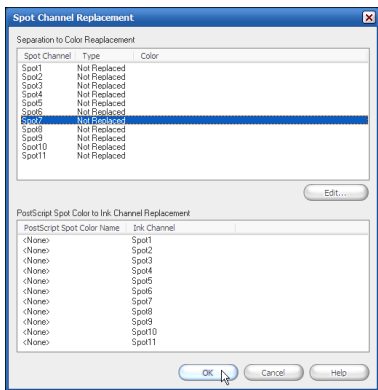

Figure 12—Spot Channel Replacement
- **Spot Channel Replacement**—this option allows you to print separation files with defined spot colors on any printer space (see Figure 12). For example, the spot colors in a CMYKSS file can be converted to CMYK so the file can be printed correctly on a CMYK printer. This option lets you print files designed for a spot color workflow on printers that don't have spot color channels.